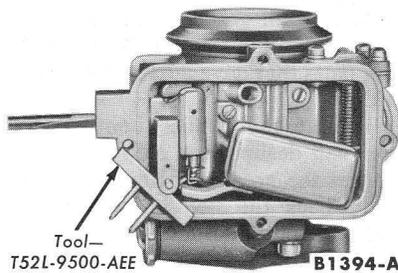

FIG. 11—Fuel Inlet Needle and Seat Installation
26. Place the fuel inlet needle seat and bracket, float, and fuel inlet needle assembly into position. Place the fuel level gauge under the float hinge bracket to prevent the assembly from tilting when the seat screw is tightened (Fig. 11).